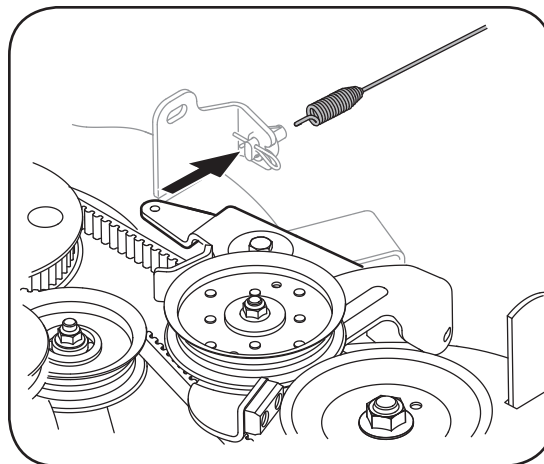

Figure 5-12
13. Pull the click pin out and unhook the drive spring cable from the idler arm assembly. See Figure 5-12.